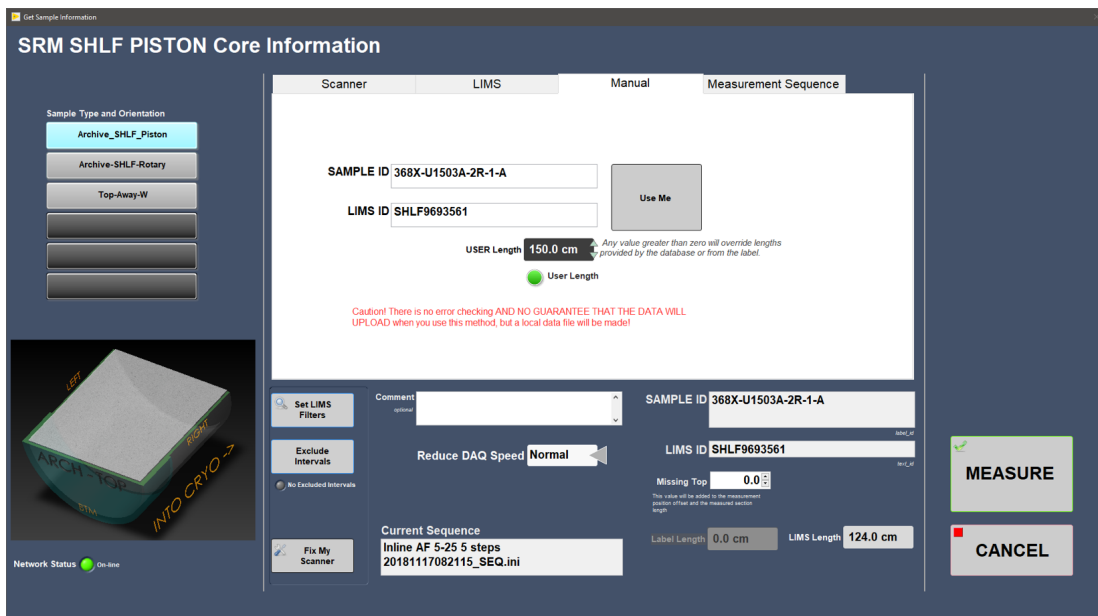

Figure 23- Sample Information Window: Section Half Manual Entry
- **Manual** entry mode: Type in the sample label ID (i.e., 362-U1480A-1H-1-A) and LIMS Text ID (i.e., SHLF7851761) and length of section (Figure 23).